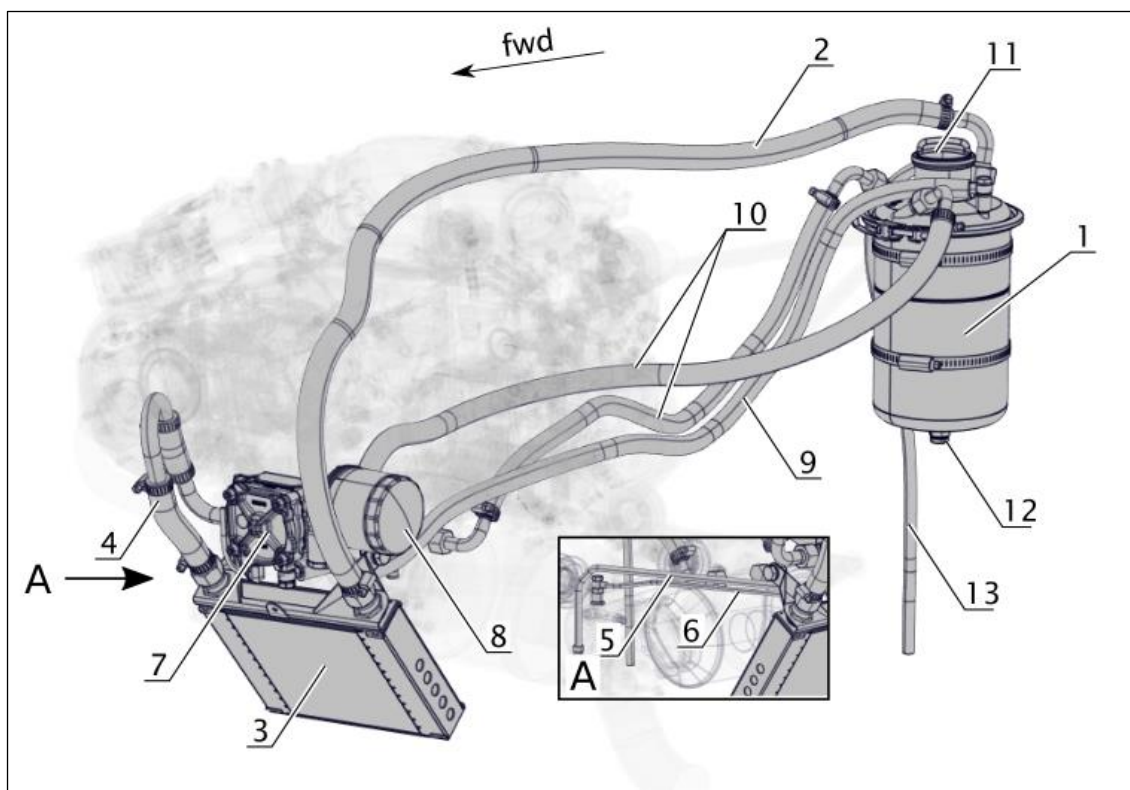

Fig. 1 *Oil Cooling System*
Engine lubrication system (see Fig. 1) is a dry sump system. Engine lubrication system is equipped with a mechanically driven oil pump (7) which ensures oil supply from the oil tank (1) located on the firewall through the oil cooler (3) and the oil pump (7) with oil filter (8) to the lubricated points on the engine. A separate oil stream lubricates the turbocharger (5;6). The oil pump is equipped with the pressure regulator and with the pressure transmitter. The oil tank is ventilated by the hose (13) which exits the airplane beneath the lower cowling. Oil pressure and temperature are indicated on the Garmin System (see chapter 77-00).
See Fig. 1.